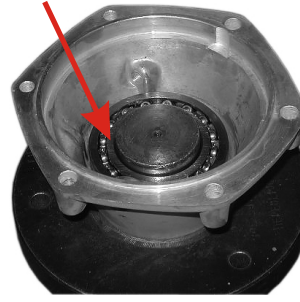

Fig.75
- Using a mandrel press bearing 7000111 into the final drive cover (Fig. 75...76)